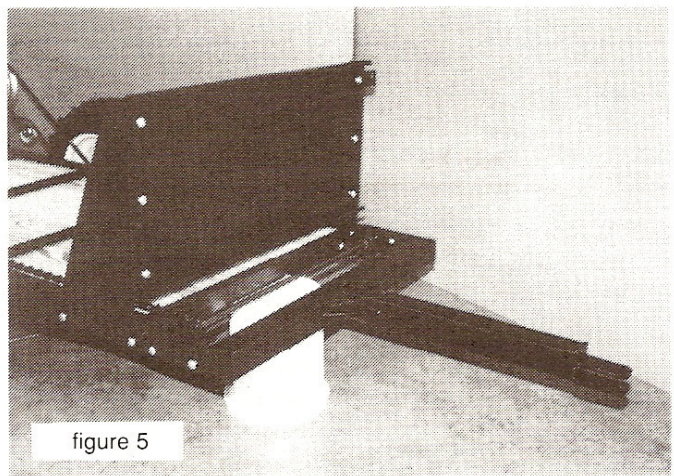

figure 5
9. Assemble the front panel by first attaching the left and right triangular steel panels, as shown in figure 5. Make sure the angled side of the panels are facing towards the rear of the spreader. Align all four holes and insert, but do not tighten, $3/8 \times 1-1/4$ inch bolts, nuts, washers, and lock washers. The large front steel panel mounts to the inside of the lips. Align all six holes making sure the top and bottom curled lips on the front panel are facing forward. Align keyhole knot holders in top holes on both sides. Insert $3/8 \times 1$ inch bolts, nuts, washers, and lock washers, then tighten. Tighten the four bolts on the side triangular panels.